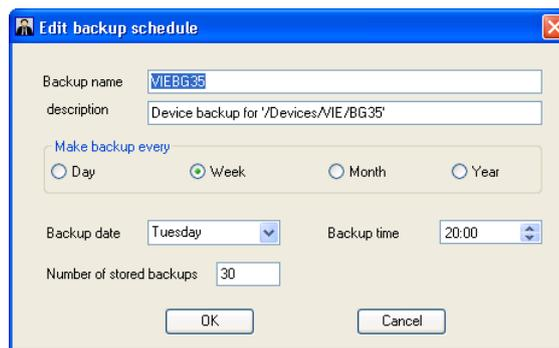

Figure 205: Edit Backup Schedule
3. Configure the name in the **Edit backup schedule** dialog (see Figure 205) and select when the backup will be executed.
3. Change the schedule settings in the **Edit backup schedule** dialog (see Figure 205)